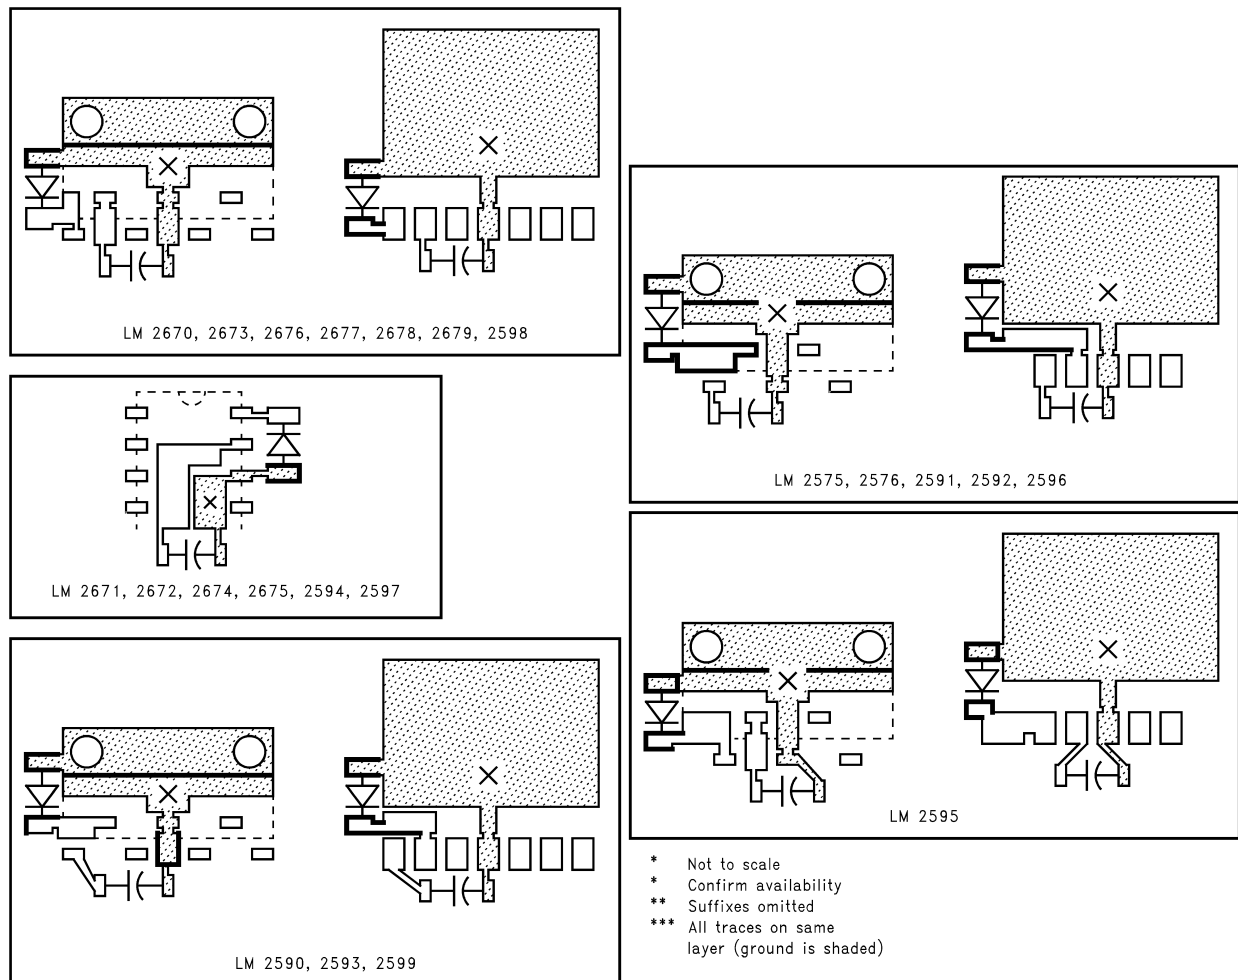

Figure 1. Recommended Layout Starting Points
The overall subject of PCB design is an extremely wide one, embracing several test/mechanical/production issues and also in some cases compliance/regulatory issues. There is also a certain amount of physics/electromagnetics involved, if a clearer understanding is sought. But the purpose of this application report is to reach the audience most likely to use it. Though there is enough design information for the more experienced designer/CAD person, the application report includes a quick-set of clear and concise basic rules that should be scrupulously followed to avoid a majority of problems. In particular, we have provided recommended starting points for layout when using the popular LM267x, LM259x and LM257x families (Figure 1) The focus is on the step-down (Buck) Simple Switcher ICs from Texas Instruments, but the same principles hold for any topology and switching power application.
1. Place the catch diode and input capacitor as shown in Figure 1.
2. For high-speed devices (for example, LM267x) do not omit placing input decoupling/bypass ceramic capacitor (0.1 μF –0.47 μF) as in Figure 1.
3. Connect vias to a Ground plane if available (optional, marked 'X' in Figure 1).
Remaining component placements can be taken up only after the input bypass capacitor and the catch diode are firmly in place and are both acap. The traces to either of these two components should be short, fairly wide, and should not go pass through any vias on the way to the IC. For SMT boards this implies that the input capacitor and catch diode are on the same layer as the IC. **In Figure 1 suggested PCB starting points are provided for several switchers.** All of them focus on placing these two critical components correctly. These layouts are strongly recommended for most applications. **The 'X' marks suggest the recommended location where vias can be used to connect to a Ground Plane (if present).** The remaining components can be placed relatively carelessly (though in doing so, there may be slight impact, for example on the accuracy of the output voltage rail and its ripple, but nothing compared to what can happen if the input decoupling cap and catch diode are incorrectly placed). Trace routing is now discussed in more detail.
The tab of the power packages of the Simple Switcher devices is fortunately at Ground potential, so having large copper planes around the tab will not produce EMI. The tab can be left floating, but if it is used, it must be physically connected directly to the GND pin of the IC as indicated in Figure 1. If a double-sided board is used, several small vias can be sunk right next to the IC Ground in positions marked ‘X’ on to a ‘Ground plane’ on the other side of the PCB. These vias therefore not only help in the correct electrical implementation of grounding, but also can serve as thermal shunts. They are therefore appropriately called ‘thermal vias’. **It is recommended that they be small (0.3 mm–0.33 mm barrel diameter) so that the hole is essentially filled up during the plating process, thus aiding conduction to the other side. Too large a hole can cause ‘solder wicking’ problems during the reflow soldering process. The pitch (distance between the centers) of several such thermal vias in an area is typically 1 mm–1.2 mm and a grid of thermal vias can be created right under the tab.** Since the thermal vias also ‘steal’ heat away from the area during the reflow cycle, occasionally leading to poor solder joints, some recommend that vias (thermal or otherwise) should be close to, but never directly under the tab/legs/pins of any component.
With double-sided boards, it is a common practice to almost completely fill one side with ground. There are people who usually rightly so consider this a panacea or 'silver bullet' for most problems. As we have seen, every signal has a return, and as its harmonics get higher, the return 'wants' to be directly under the signal path, thus leading to field cancellation, and reduction of inductance. It also helps thermal management as it couples some of the heat produced by power devices on one side of the board to the other side. The Ground plane also capacitively links to noisy traces above it, causing some 'softening' of transients and thereby some reduction in noise/EMI ---**unless the cross-coupling is so severe as to start causing the Ground plane itself to radiate.** Vias can be sunk under the ground terminal of all power components in to the Ground plane, and this reduces DC resistance offset errors on the output voltage too for example. As mentioned, in Figure 1, 'X' marks have been placed to indicate that if there is a double sided board in use, and a Ground plane is present, then vias can be added at these points. They are optional, and so if a low cost single-sided board is preferred, they can be omitted. But if these vias are also doubling over as 'thermal vias' for the switcher IC, as when they are under the tab of an SMT power device, they should be sized appropriately as previously discussed.
However, a Ground plane should be an 'add-on' to the recommendations in Figure 1. It does not substitute the correct placement of the two critical components. Much effort should go into not breaking or partitioning this plane. Further, in general, if too much switching power flow occurs through such a plane, it can create 'ground bounce' and cause controller upsets. Therefore in higher power applications, with the added luxury of multi-layer PCBs, separate signal and power ground planes are used. But for the lower power SIMPLE SWITCHER family, a single Ground plane is all that may be required. And if the layout is carried out conscientiously, keeping all the recommendations in mind, even a single-sided board should suffice.